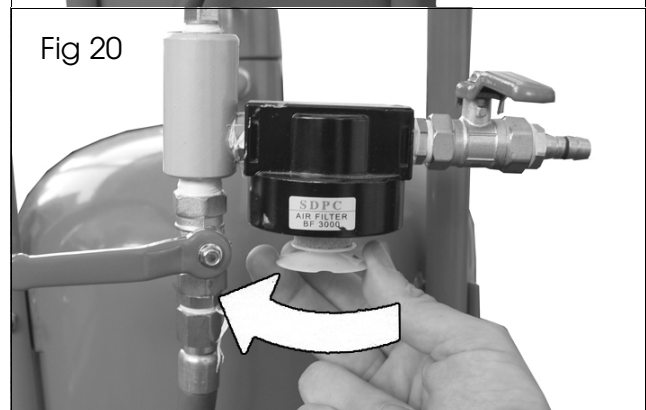

Fig 20
2. Unscrew the filter as shown in Fig 20 and wipe clean.